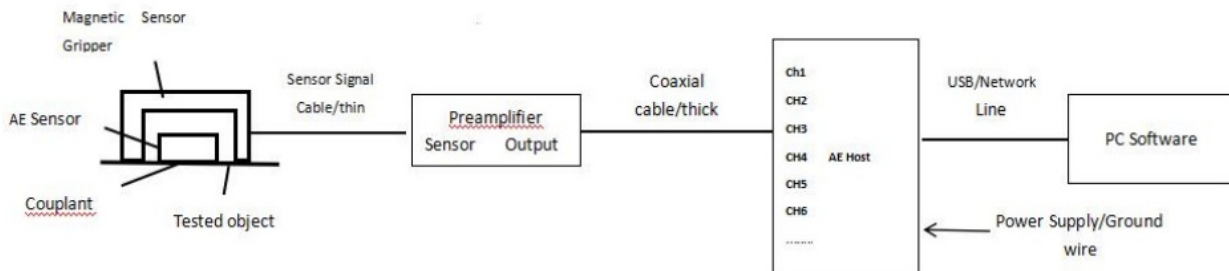
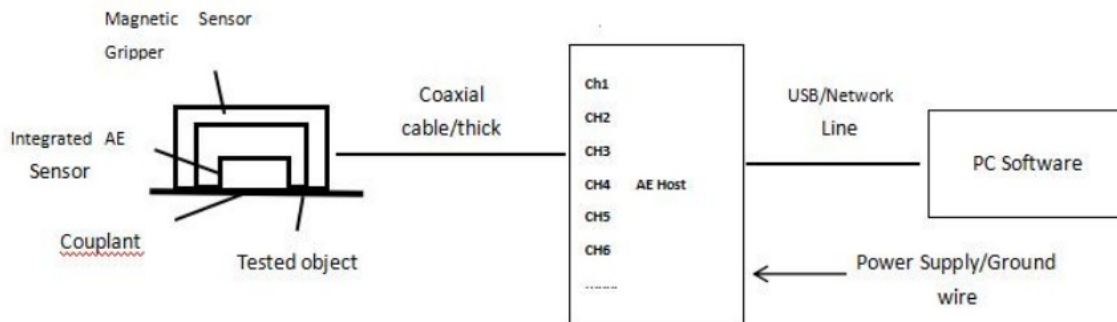

Fig. 1-1 Connection Diagram of generic sensor and external preamplifier
Fig. 1-2 Connection Diagram Of Integrated Sensor
The system hardware connection diagrams are shown in Fig. 1-1 and Fig. 1-2.
Figure 1-1 and Figure 1-2 are the schematic diagrams of hardware connection of the acoustic emission detection system. The difference is that the selected sensors are different. The former is that the sensor and preamplifier are independent products, while the latter is of integrated structure.
A. When the sensor and preamplifier are two separated independent products, please refer to the connection method in Fig. 1-1:
B. When the AE sensor is an integrated sensor with a built-in preamplifier, refer to the connection method in Fig. 1-2;